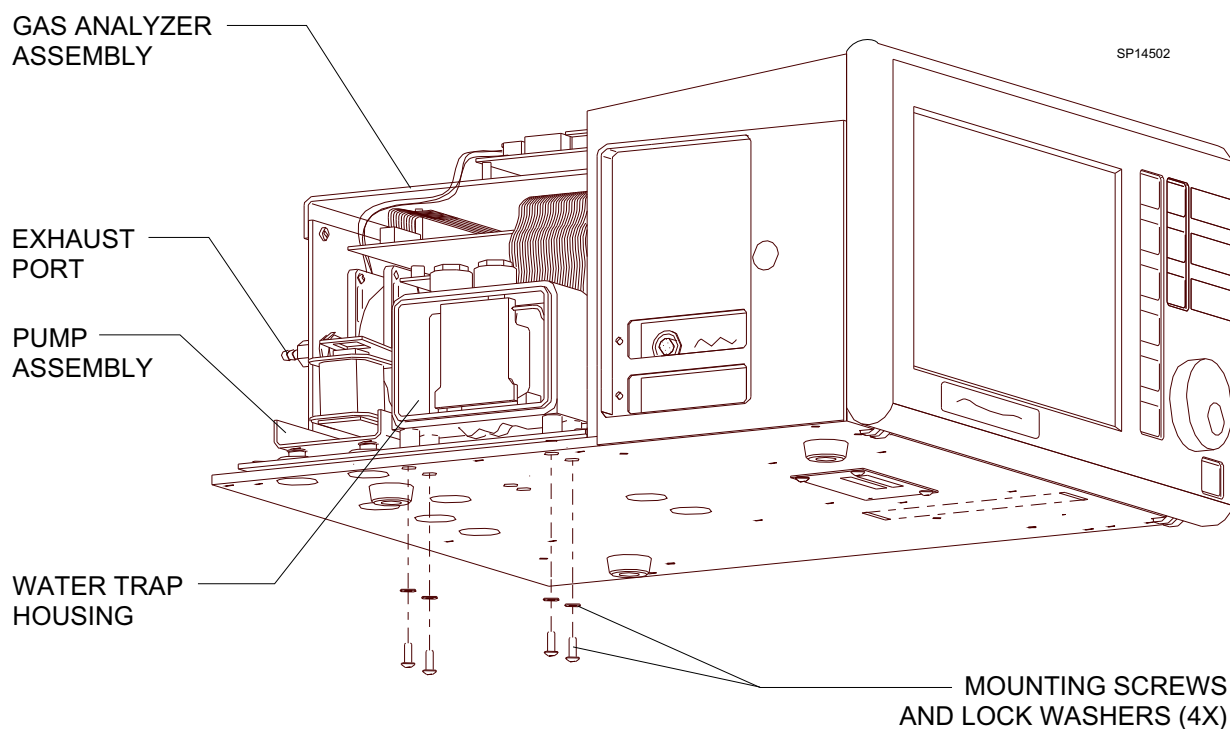

Figure 2: WATER TRAP HOUSING MOUNTING ARRANGEMENT
8. Remove the four screws and lockwashers securing the water trap housing to the gas analyzer assembly. These screws are accessible through the bottom of the VA3000 chassis as shown in Figure 2.